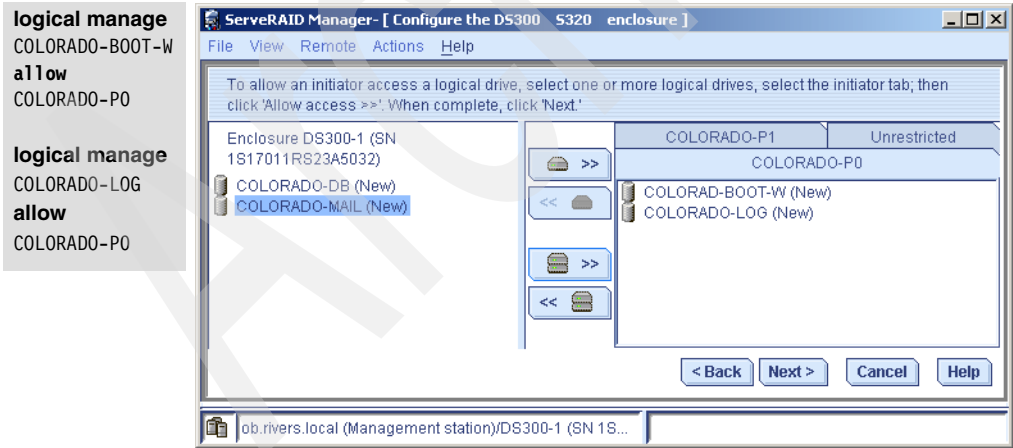

Figure 4-83 Assigned logical drives to an iSCSI initiator alias
29.The assigned logical drives will be removed from the enclosure list and added under the initiator alias. When a logical drive is assigned more than once to an initiator, they are shown in red with the number of assigned initiators. Click **Next**. See Figure 4-83.